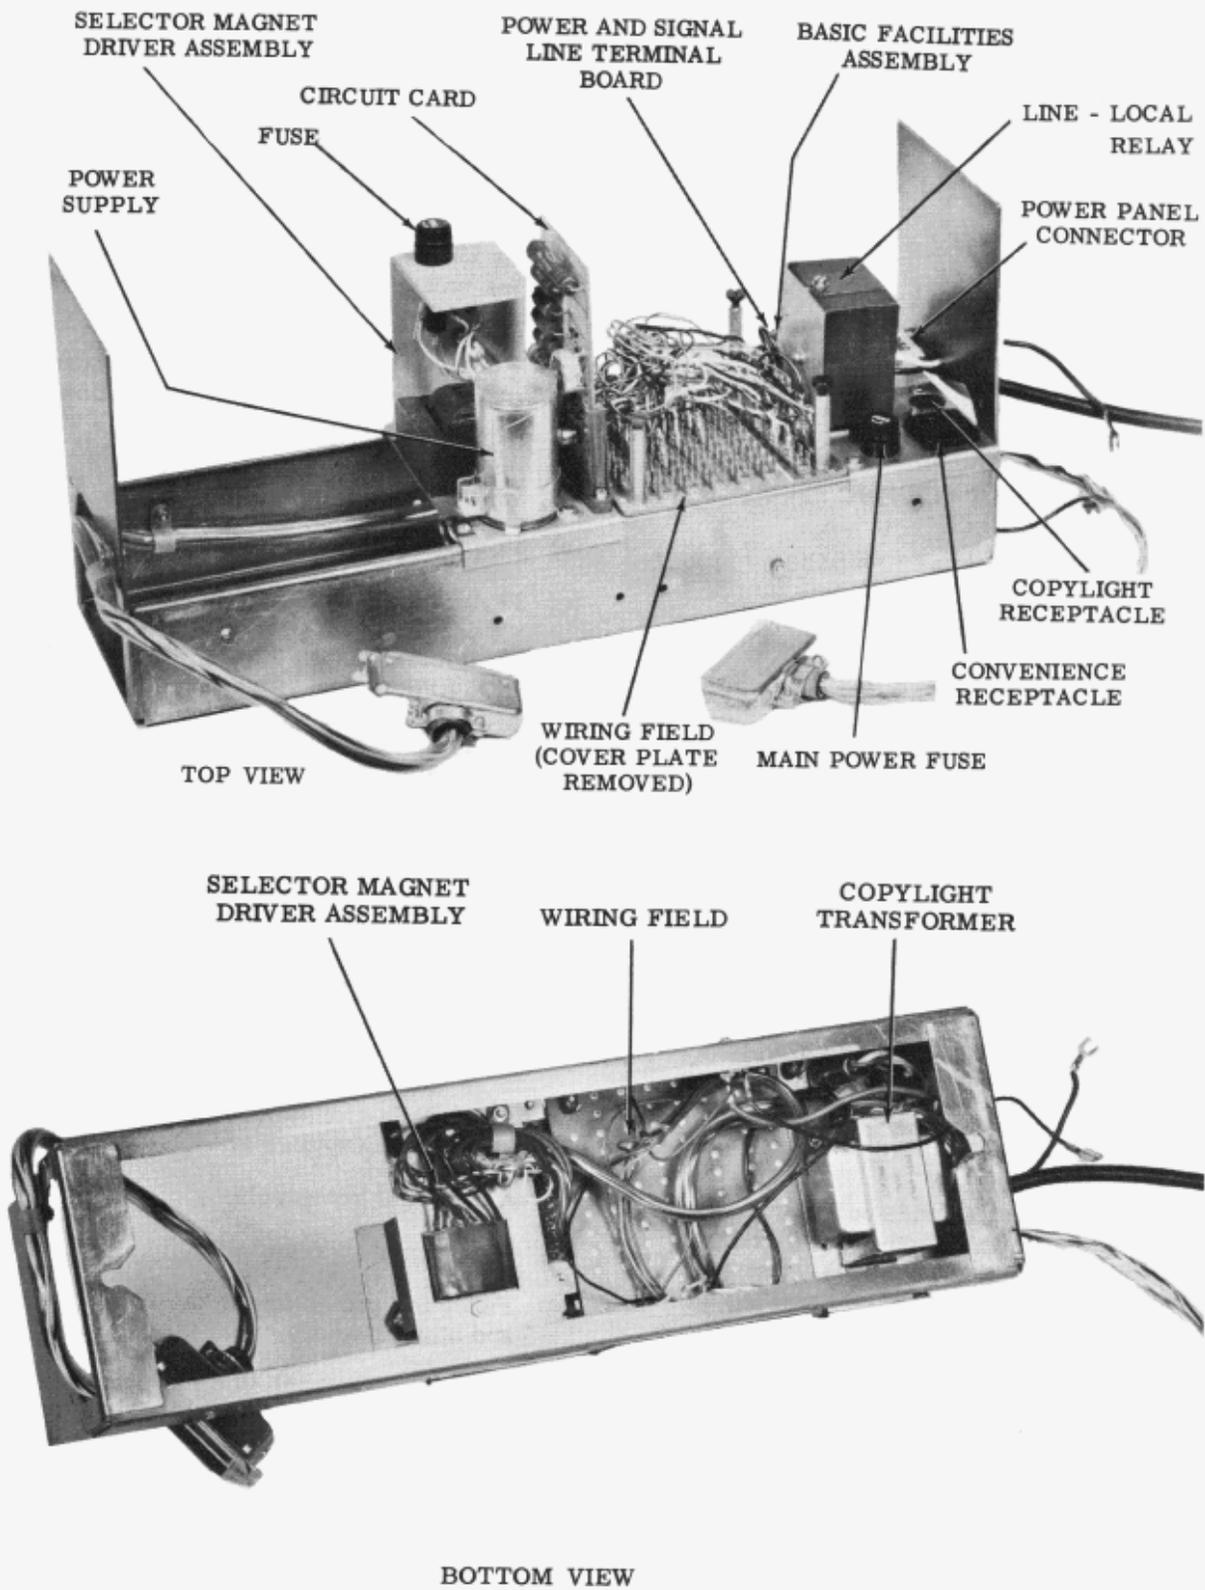

Figure 1 - Typical Electrical Service Unit for 35 KSR Set
- (a) 35 Receive Only (RO) Set.
2. DESCRIPTION (See Figures 1, 2, and 3)